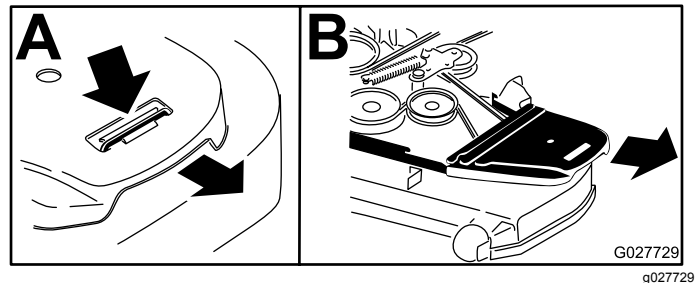

Figure 80
4. Remove the belt covers (Figure 80).